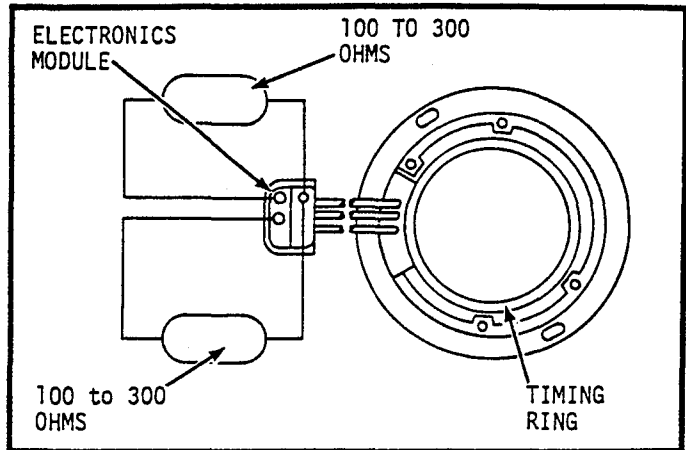

FIGURE 3-9 -- TIMING RING TEST
**STEP 1:** Unplug the three-lead connector from the electronics module and make the following checks at the connector on the wiring harness. Connect the ohmmeter leads between the red lead terminal and the white lead terminal. The ohmmeter should indicate between 100 and 300 ohms. Connect the ohmmeter leads between the white lead terminal and the black lead terminal. The ohmmeter should indicate between 100 and 300 ohms. Connect one ohmmeter lead to the engine block. Then check the three terminals with the other ohmmeter lead. The ohmmeter must indicate an open circuit (infinity) at all three terminals. (See Fig. 3-9) If these readings are not obtained, the timing ring assembly is defective and must be replaced.